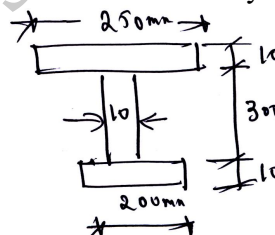

Fig.Q7(c)
- c. An unsymmetric I-section is subjected to a bending moment of 20 kN-m. The top flange being in compression. Draw the bending stress variation diagram across the section marking salient points and compute the total moment resisted by the top flange. Refer Fig.Q7(c).